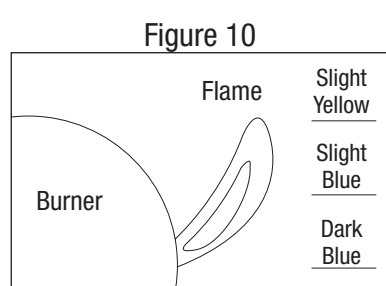

Figure 10
9. After lighting, observe the burner flame, make sure all burner ports are lit and flame height matches illustration. (Figure 10)